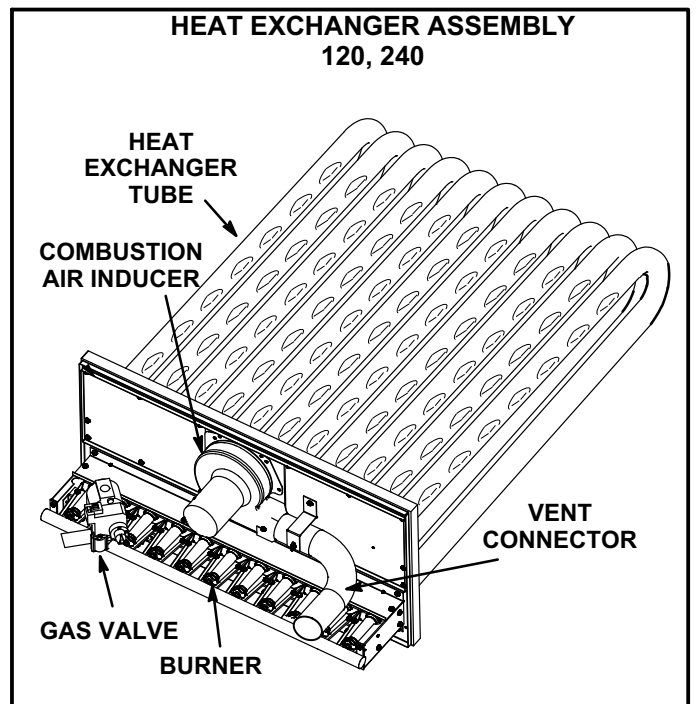

FIGURE 44
- 3- Remove and retain screws securing combustion air inducer to flue box. Remove vent connector. See figure 32 for 036 and 060 units and figure 44 for 120, and 240 units.